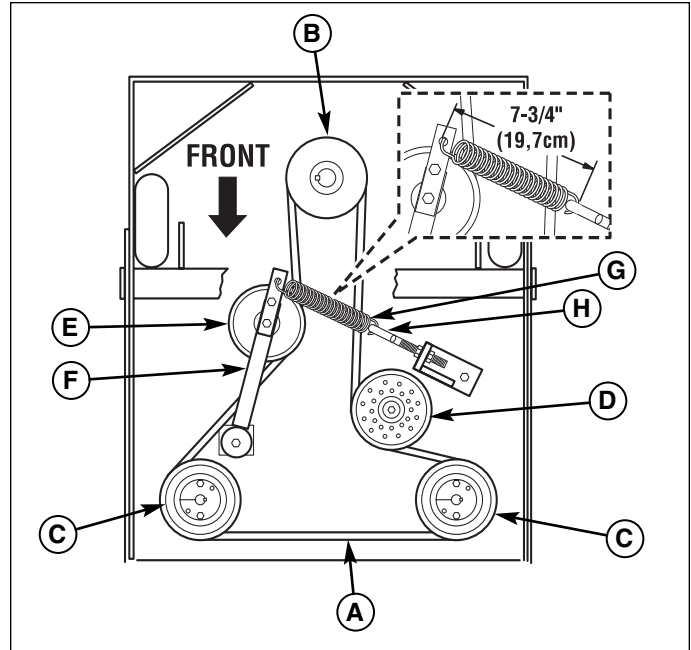

Figure 25. Hydraulic Pump Drive Belt Replacement (Shown from Below)
3. Loosen the nut towards the front of the machine on the spring anchor hook (H, Figure 25) to release the majority of the belt tension. Use caution and remove the nut to completely release the tension.
5. Reinstall the anchor hook (H) into the anchor tab and loosely fasten the nut. Adjust the spring until a measurement of 7-3/4" (19,7cm) is achieved from the outside of the spring hooks. Tighten nut.